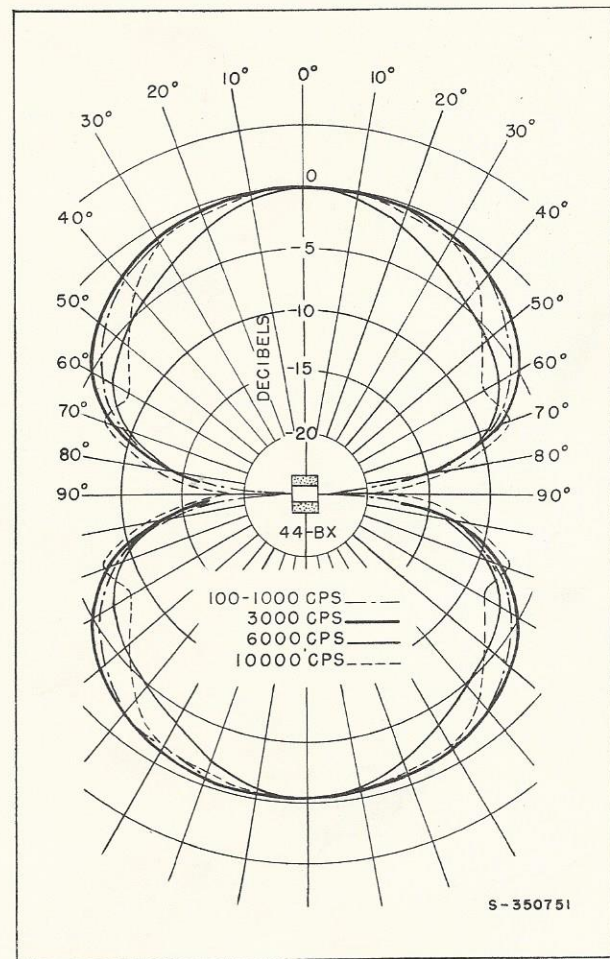

Figure 2 - Directional Pattern
Bi-directional about horizontal and vertical axes (see figures 2 and 3)
One of the most useful properties of a velocity microphone is its bi-directional or figure-eight directional characteristics. As shown in the directional patterns (figures 2 and 3), the output of the microphone is maximum for sounds originating directly in front of or behind the microphone, and minimum for sounds originating at the sides, top or bottom. This characteristic is valuable for both vocal and musical pickup. For vocal pickup, its chief value lies in the fact that it enables participants in dialogue to face each other across the microphone. For musical pickup, it makes it possible to obtain different effects by arranging orchestral instruments about the microphone so that the sounds of some instruments are attenuated and others are accentuated.
b. Place high-frequency musical instruments, such as violins and saxophones at small angles with the axis perpendicular to the front or rear surface of the microphone, and low-frequency instruments at greater angles. Refer to figures 2 and 3 for curves showing the directional response to tones of various frequencies.